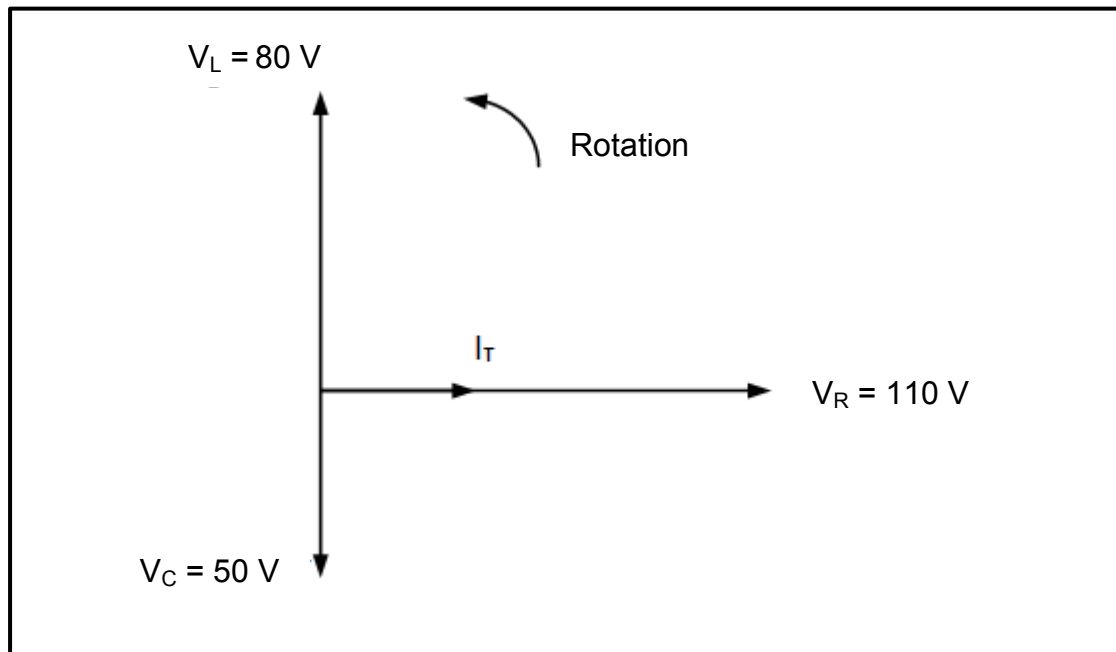

FIGURE 5.2: PHASOR DIAGRAM OF A SERIES RLC CIRCUIT
- 5.2 FIGURE 5.2 below shows the phasor diagram of a series RLC circuit. Answer the questions that follow.